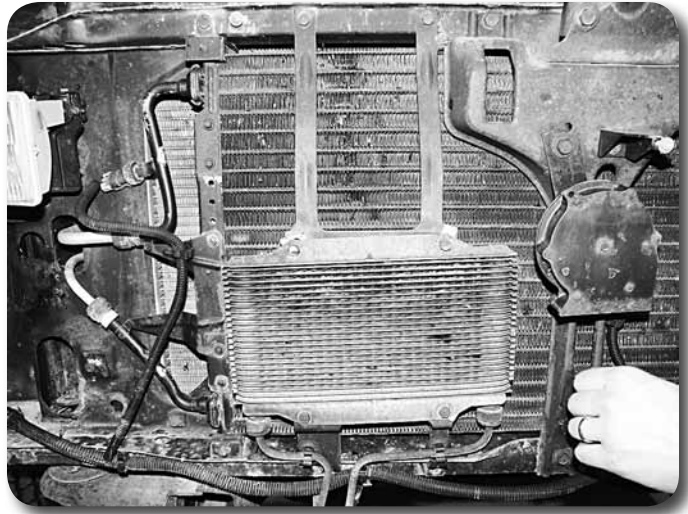

Figure 6
12. If equipped, remove the four bolts mounting the transmission oil cooler to the core support. Allow the cooler to hang down out of the way **Figure 6**. Save hardware.